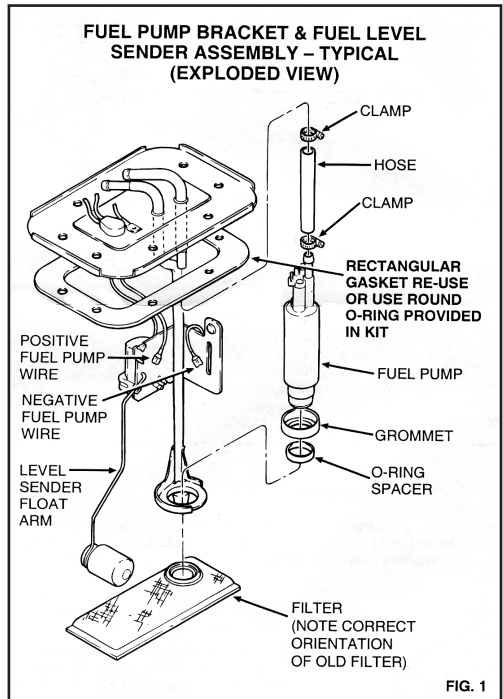

FIG. 1
- 1) Insert the new pump inlet into the rubber grommet supplied in the installation kit. Next, slip the o-ring spacer supplied in the kit onto the inlet of the pump, (See Fig. 1).
Install the filter on the pump. Take note that the orientation tab on the bracket must be bent back. The new filter must be in the same orientation as the old filter or the float arm of the level sender may be obstructed and cause incorrect fuel level indication, (See Fig. 1) 1) Make sure the filter is fully seated on the pump and will not fall off. Without proper filtration, damage to the pump may occur. Failure to use the new filter provided in the kit voids the pump warranty.
Install the pump bracket into the fuel tank, using the new o-ring tank seal for brackets with a round top, or re-use the rectangular gasket for brackets with a rectangular top, (See Fig. 1).